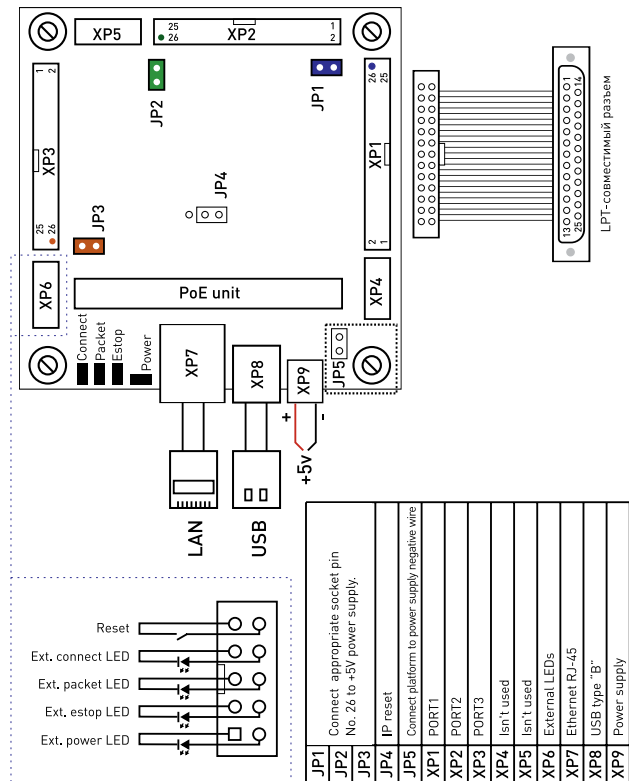

Fig. 2. Connection diagram
- XP7 socket (Fig. 2) is intended for connection PLCM-E2 to Ethernet local network. The connection is recommended to make by a cable which has category 5 or above. Patch cords application with direct and cross type of pressing is accepted. Possibly direct connection to PC without switchboard use.
- XP6 (fig.2) allows to connect duplicate LEDs for controller state indication, for example, in the case of placement it in something housing. Reset output can be used for controller hardware reset. For this it is necessary to close 1 and 2 outputs of these socket.